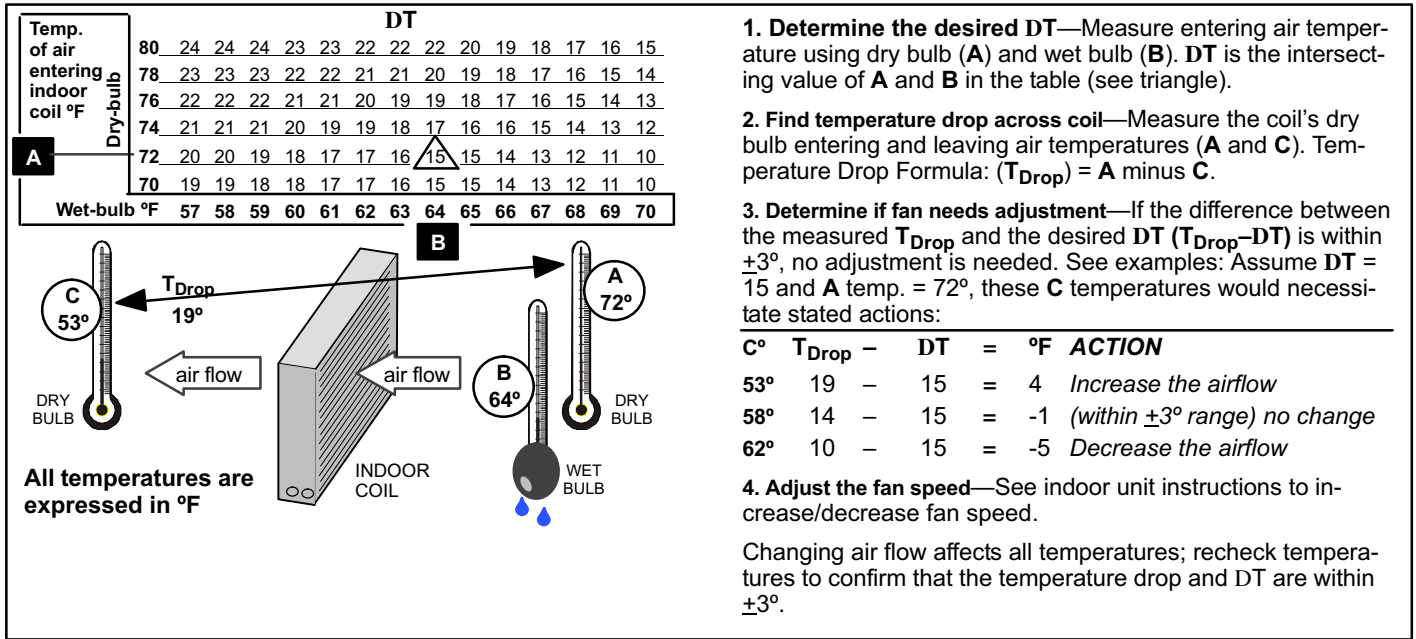

Figure 17. Checking Indoor Airflow over Evaporator Coil using Delta-T Chart
Check airflow using the Delta-T (DT) process using the illustration in figure 17.